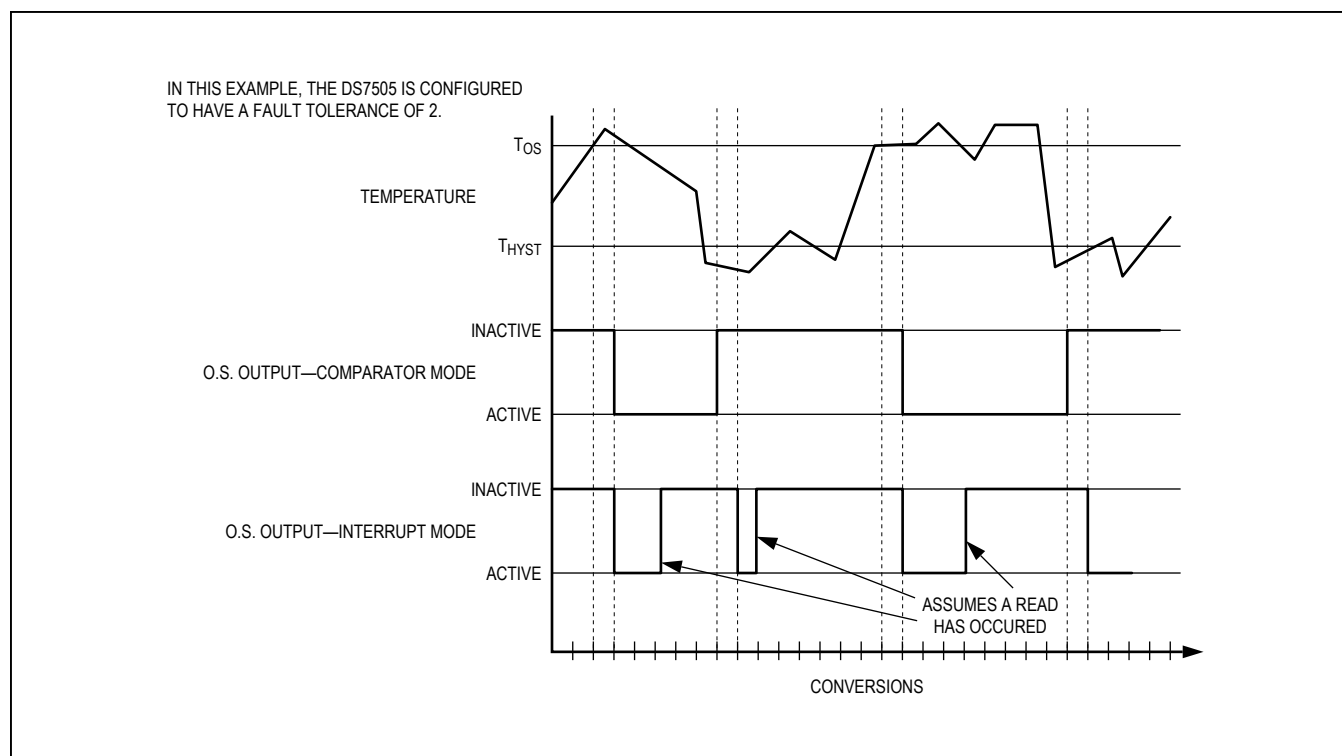

Figure 4. O.S. Output Operation Example
When the thermostat is in comparator mode, O.S. can be programmed to operate with any amount of hysteresis. The O.S. output becomes active when the measured temperature exceeds the T_{OS} value a consecutive number of times as defined by the F1 and F0 fault tolerance (FT) bits in the configuration register. O.S. then stays active until the first time the temperature falls below the value stored in T_{HYST} . Putting the device into shutdown mode does not clear O.S. in comparator mode. Thermostat comparator mode operation with FT = 2 is illustrated in Figure 4.
measured temperature falls below the T_{HYST} value a consecutive number of times equal to the FT value. Again, O.S. can only be cleared by putting the device into shutdown mode or reading any register. Thus, this interrupt/clear process is cyclical between T_{OST} and T_{HYST} events (i.e., T_{OST} , clear, T_{HYST} , clear, T_{OST} , clear, T_{HYST} , clear, etc.). Thermostat interrupt mode operation with $FT = 2$ is illustrated in Figure 4.